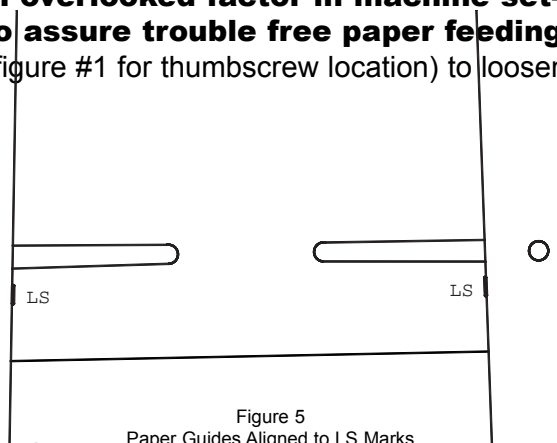

Figure 5
2. For standard U.S. 8 1/2" X 11" paper, move both paper guides in so that their inside edges align with the straight marks on the feed table denoted LS (see figure 5 for mark location). For A4 paper, Align the *outside edges* of the paper guides with the straight marks denoted A4. Tighten both thumbscrews (Note: Do not overtighten thumbscrews).